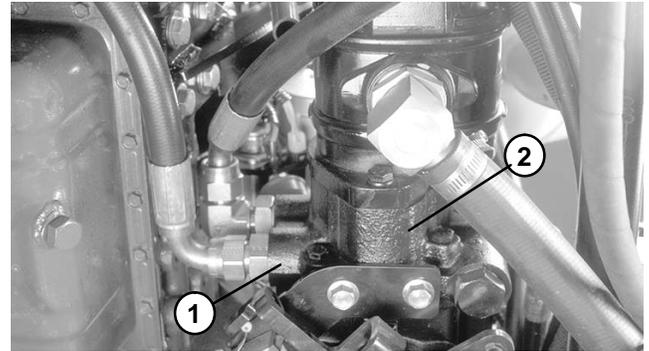

Figure 25
6. Disconnect hose from the lower hydraulic fitting on the engine side of the hydrostat (Fig. 25).